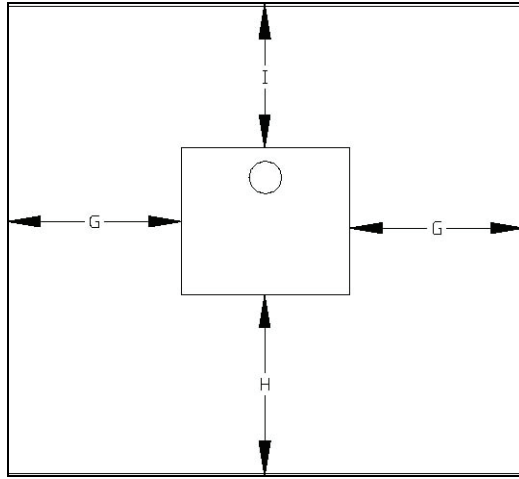

FIGURE 8: FLOOR PROTECTOR DIMENSIONS
1. All Country Flame freestanding catalytic wood stoves require a listed floor protector that is noncombustible. Country Flame catalytic stoves were tested with a listed floor protection that had a thermal conductivity of K = 0.85 BTU-inch per hour per square foot per degree Fahrenheit and that was 3/8" thick (9.5mm) non-asbestos millboard. Refer to FIGURE 8 and TABLE 7 for floor protector information.